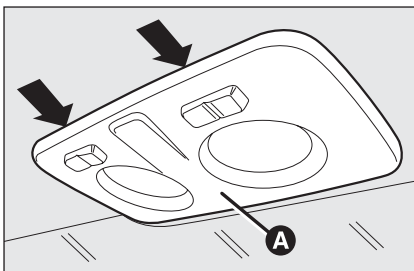
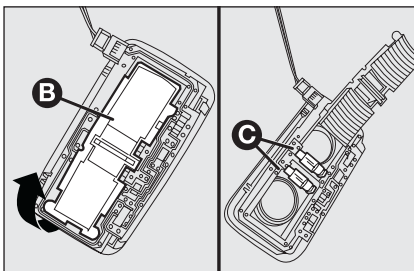

fig. 36
fig. 37
- work in the points shown by the arrows and remove light **A**-fig. 36;
- open the protection lid **B**-fig. 37;
- re-close the lid **B**-fig. 37 and secure light **A**-fig. 36 into its housing locking it properly.